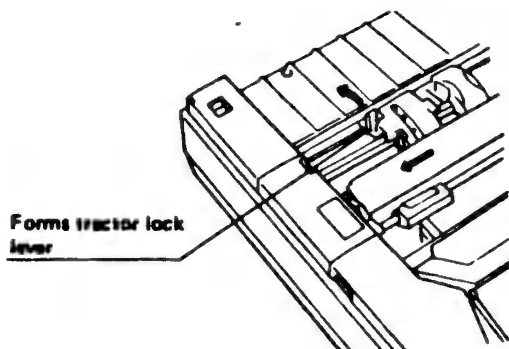

Figure 2-18 Unlocking the Forms Tractor
5. Before trying to move a form tractor, set the form tractor's lock lever towards the rear of the printer (into its unlocked position), as shown in Figure 2-18. Slide the right forms tractor towards the right side of the printer (just to get it out of the way).